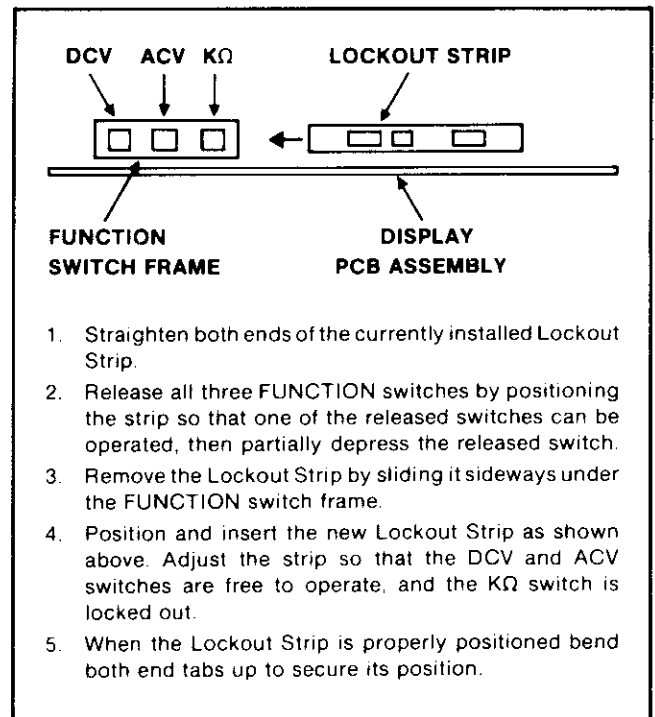

Figure 609-1. Installing the Lockout Strip
2. Determine the measurement functions that will be available when the True RMS Converter is installed; i.e., DCV and ACV or DCV, ACV, and k $\Omega$ . If k $\Omega$  is not available, prepare and install the Lockout Assembly as shown in Figure 609-1. If the Ohms Converter (Option -007) is installed, the Lockout Assembly is not required. In this case, complete only steps 1, 2, and 3 of Figure 609-1.